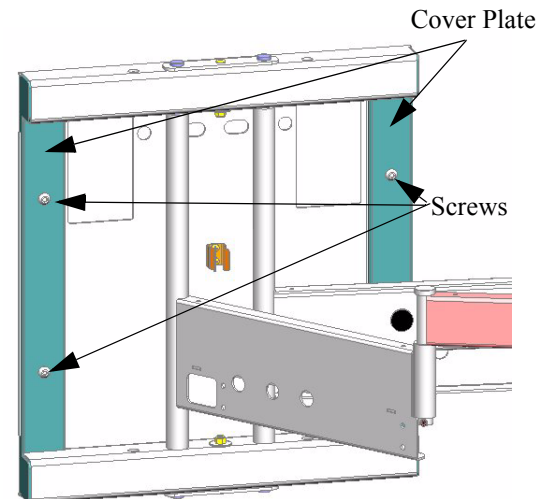

Figure 1. Cover Plate Removal
2. Remove four screws (two each side) and two cover plates (one each side. See Figure 1).
8. Install two cover plates and secure using four screws (see Figure 1).